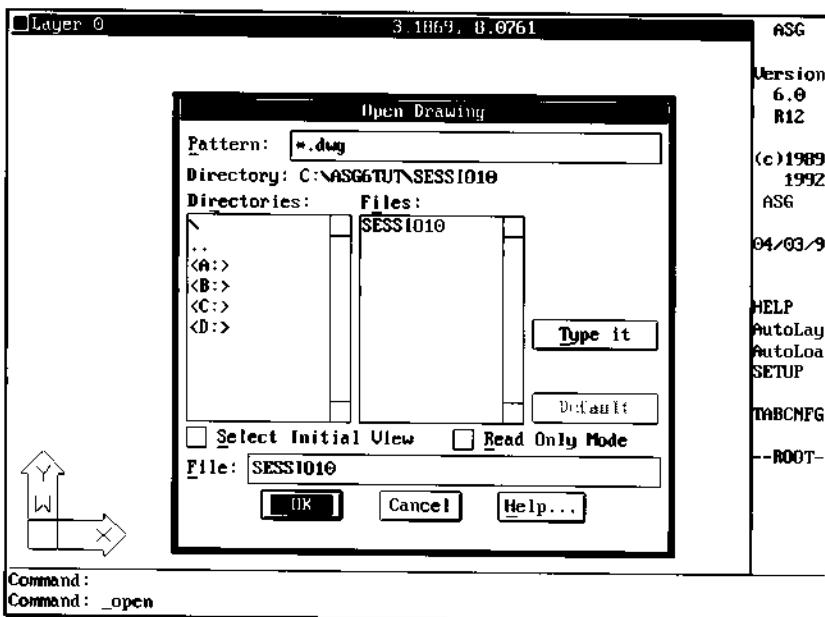

Figure 1.
3. In the Open Drawing dialog box, select the SESSIO10 drawing as shown in Figure 1.